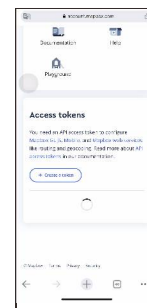

Figure 3
2.4 After successfully registering the account, locate and click on "create a token" to apply for creating a token. (See Figure 3)